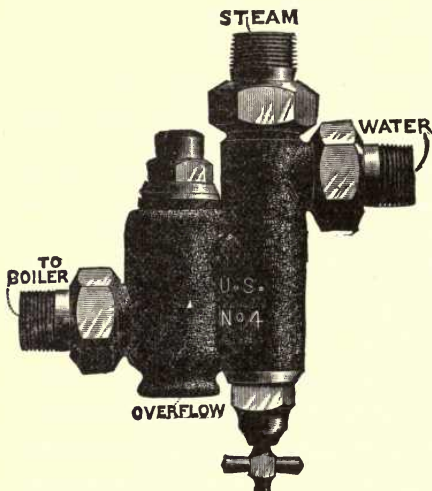

FIG. 168.—Injector.
**358. Injectors and Ejectors.**—The injector (Fig. 168) is an apparatus for forcing water against pressure by the direct action of steam on the water. It is universally used on locomotive and sometimes on stationary boilers. Steam is led from the boiler through a pipe, which terminates in a nozzle surrounded by a cone. This cone-shaped pipe is connected with the water tank or well where the water is stored. When steam is turned on, so as to pass into the injector, it rushes from the nozzle and thereby creates a partial vacuum in the cone. Since this pressure in the cone is now less than the atmospheric pressure in the water well, the water is forced up to the cone. As the steam meets this water it condenses, but not before its force has imparted enough of its velocity to the water to give the latter sufficient momentum to force down the valve that prevents the steam and water of the boiler from escaping. An injector does not work well if the feed water is too hot, as in that case the steam does not condense quickly.